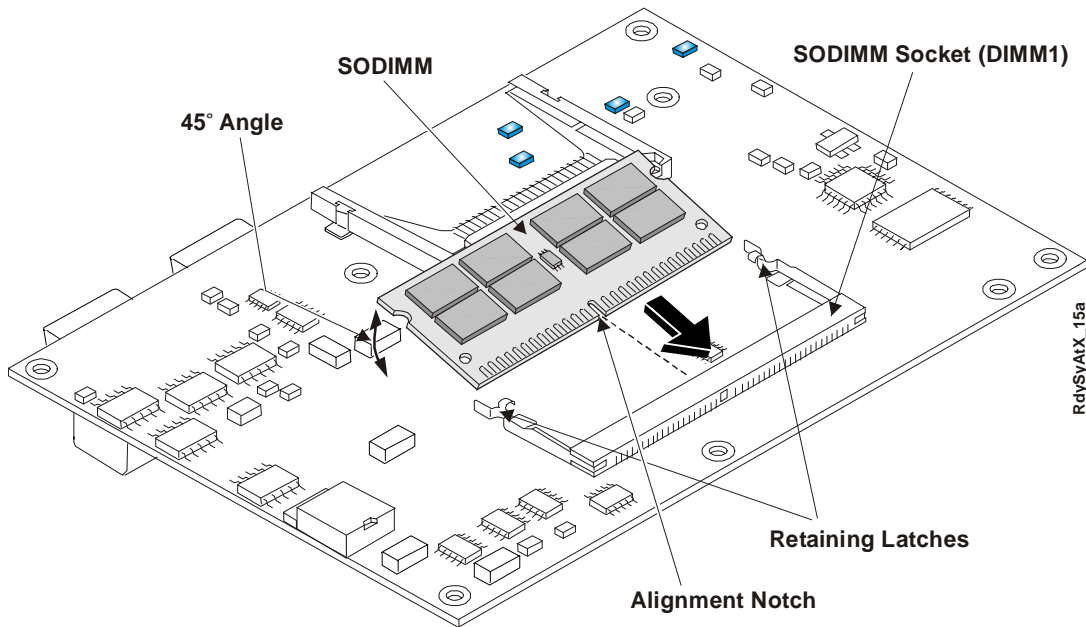

Figure 2-12. Installing SODIMM into Socket
11. Insert the SODIMM into the socket at 45° angle to the bottom of the ReadyBoard model with the components facing up. See Figure 2-12.
12. Press the edges of the SODIMM down between the latches, until the latches snap into place. See Figure 2-12.